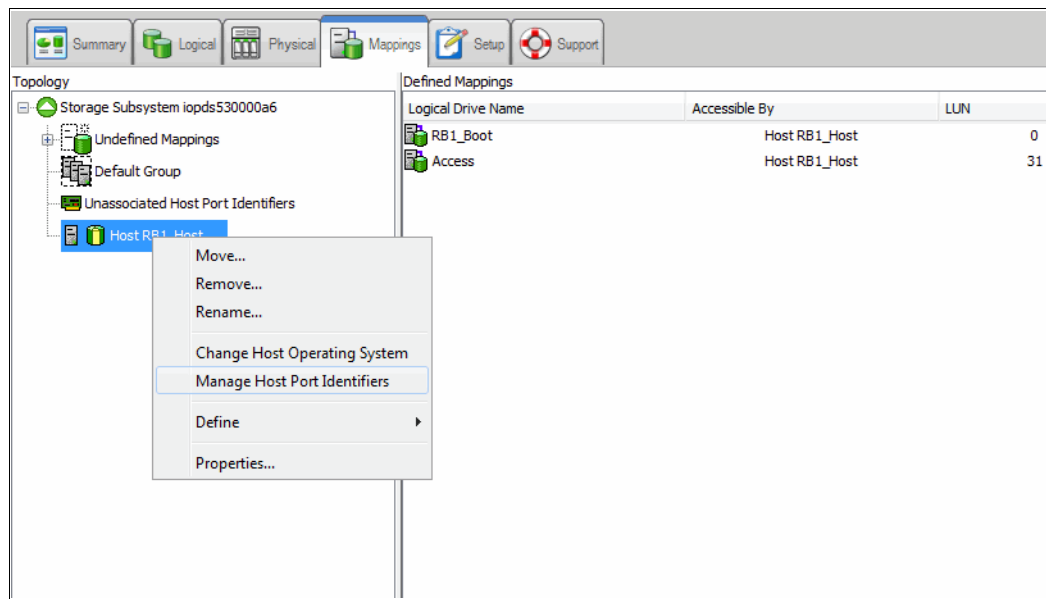

Figure 2-71 Adding WWPN to host
1. We start in the Mappings tab of the DS Manager. To add the second path to the host RB1_Host, you right-click the host and click **Manage Host Port Identifiers**, as shown in Figure 2-71.